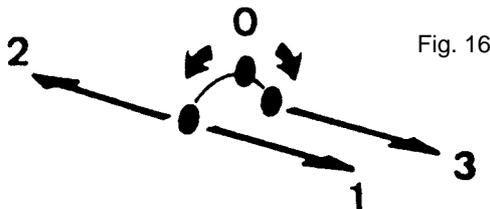

Fig. 16
Table Fig. 16 shows the different speeds.
- Disconnect the pump at the coupling / joint A&B (fig16).